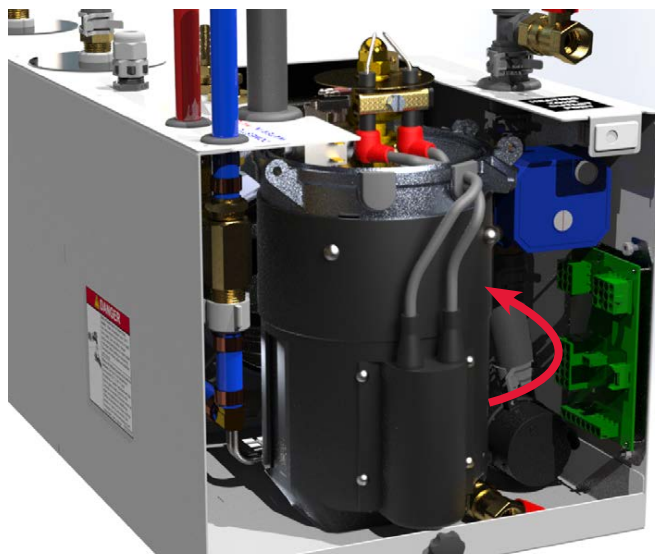

Figure 138
1. Carefully pull the diesel burner away from the Aqua-Hot 4 - 5 inches before rotating the burner, then remove completely as shown in Figure 138.